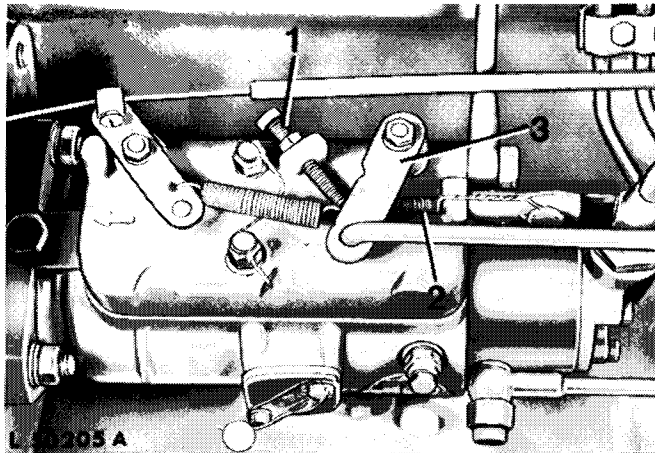

Fig. 5 — ROTO DIESEL Injection Pump, Installed
2. Move pump throttle lever 3 (fig. 5) against pump fast idle adjusting screw 2.